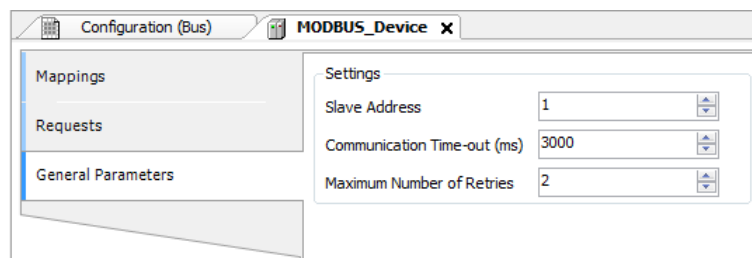

Figure 85: Device General Parameters Settings
- Add and configure devices via the General Parameters tab, defining the slave address, communication time-out and number of communication retries as can be seen in Figure 85.